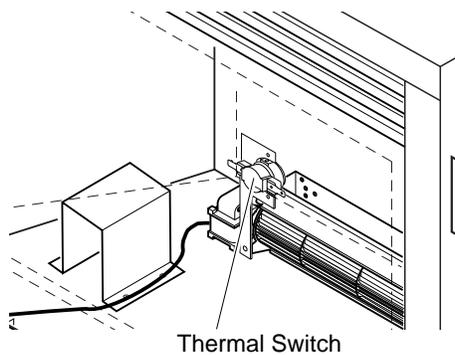

**Figure 30 - Mounting Blower to Firebox**
**IMPORTANT:** For clarity, gas valve assembly and grate/burner assembly are not shown in Figures 30 through 33, page 17. They will, however, be in your fireplace when you are installing the blower. Also for clarity the firebox is shown with dotted lines.
2. Place the blower against the lower rear wall of firebox outer wrapper with the exhaust port directed upward. Align the holes in the top mounting tabs of blower with holes in wall of wrapper (see Figure 30, page 17). Using the two screws provided, mount blower and tighten screws securely.